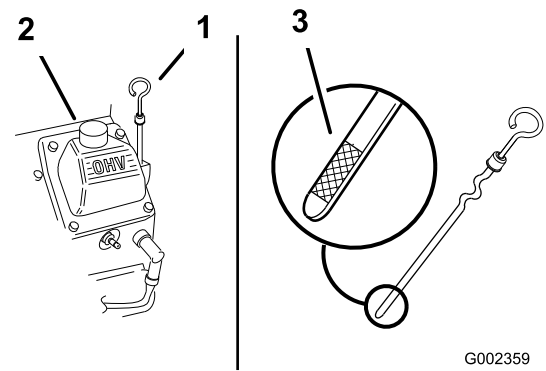

Figure 18
3. Clean around the oil dipstick (Figure 18) so that dirt cannot fall into the filler hole and damage the engine.
4. Unscrew the oil dipstick and wipe the end clean (Figure 18).
5. Slide the oil dipstick fully into the filler tube, but do not thread onto tube (Figure 18).
6. Slowly pour approximately 80% of the specified oil into the filler tube (Figure 18).